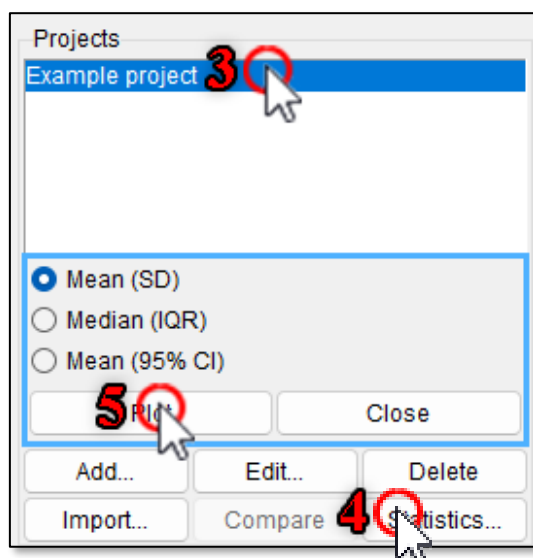

Figure 46
3. Choose a project by left clicking on it in the side panel’s project module (Figure 46).
4. Click the “Statistics...” button (Figure 46).
5. Select the statistical method to be used and click the “Plot” button (Figure 46).